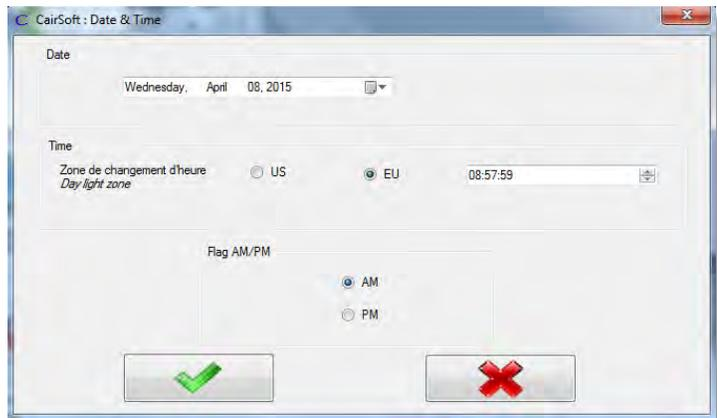

Figure 6
3. Modify any of the parameters by clicking the buttons on the main CairSoft screen shown in Figure 6.
3. Click the **Graphic** button (see Figure 6).